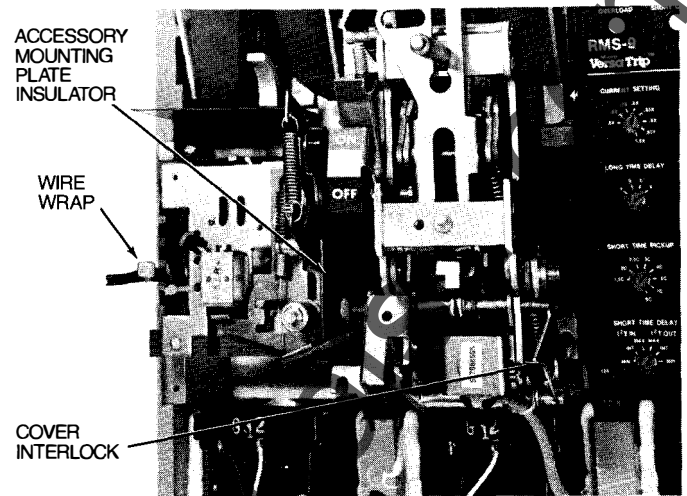
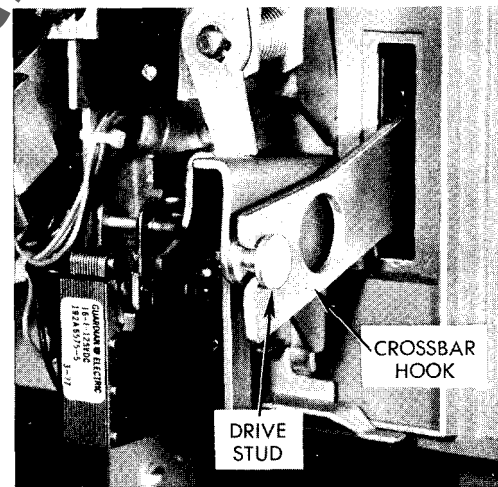

Figure 29.
Figure 30.
2. Lift out accessory mounting plate and remove molded drive crank. (Fig. 29).
3. Fasten three (3) retaining screws, see Fig. 29 and torque to 20 inch-pounds (2 small screws) and 75 inch-pounds (large screws with tubing).
4. Attach wire-ties to leads and secure to mounting plate as shown in Fig. 29.
5. Insert leads into knockout in base sidewall making sure one wire tie is on the inside of the base and the other is on the outside. See Fig. 29.
3. **CAUTION:** Verify that the accessory mounting plate insulator is properly located so it will not be damaged when assembling the cover. The cover phase barrier must pass to the right side of this insulator (see Figure 29).
5. Verify that the breaker can be charged per the instructions on page 5. The cover interlock (Figure 29) must properly engage the cover or it will hold the latch in the tripped position.
- b. **CAUTION:** Verify that the accessory mounting plate insulator is properly located. (Fig. 29) Slide the Inner Cover Assembly onto the breaker base being careful not to damage the insulator. Ensure that the crossbar hook engages the drive stud as shown in Fig. 30.
6. Line up the UVR bracket's mounting hole with the tapped hole in the accessory mounting plate. Install screw and lock-washer (Fig. 30). Tighten to 9-11 inch pounds.
8. Remove knockouts as required in side of base. Each knockout will accommodate up to three bundles of wires (Fig. 29). Remove all sharp edges with a file.
10. Use the tie wraps provided to secure leads to mounting plate and to secure the wire bundle to inside and outside of the breaker base as shown in Fig. 29.